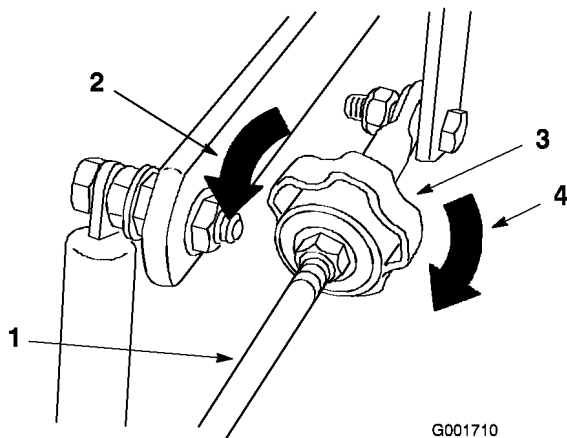

Figure 42
4. Adjust the tracking as follows (Figure 42):